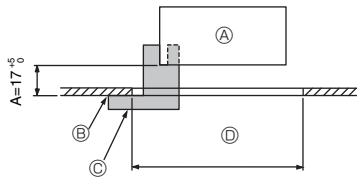
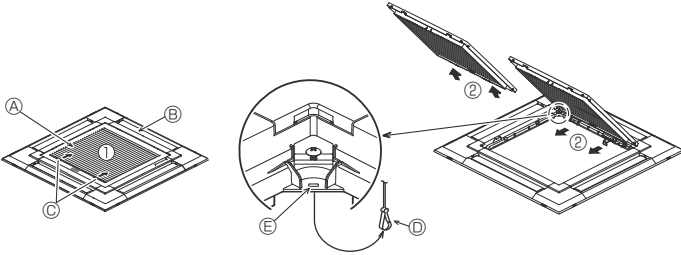
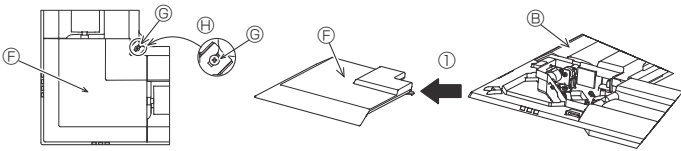

Fig. 9-2
Fig. 9-3
Fig. 9-4
9.2. Preparing to attach the grille (Fig. 9-2)
- With the gauge ② supplied with this kit, adjust and check the positioning of the main unit relative to the ceiling surface. If the main unit is not properly positioned relative to the ceiling surface, it may allow air leaks or cause condensation to collect.
- ① Main unit
- ② Ceiling surface
- ③ Installation gauge ② (inserted into the main unit)
- ④ Ceiling opening dimensions
9.2.1. Removing the intake grille (Fig. 9-3)
- Slide the levers in the direction indicated by the arrows ① to open the intake grille.
- With the intake grille in the "open" position, remove the hinge of the intake grille from the grille as indicated by the arrows ②.
9.2.2. Removing the corner panel (Fig. 9-4)
- Loosen the 4 screws on the corner. Slide the corner panel in the direction of the arrow ① in the figure and remove the corner panel.
[Fig. 9-3] [Fig. 9-4]